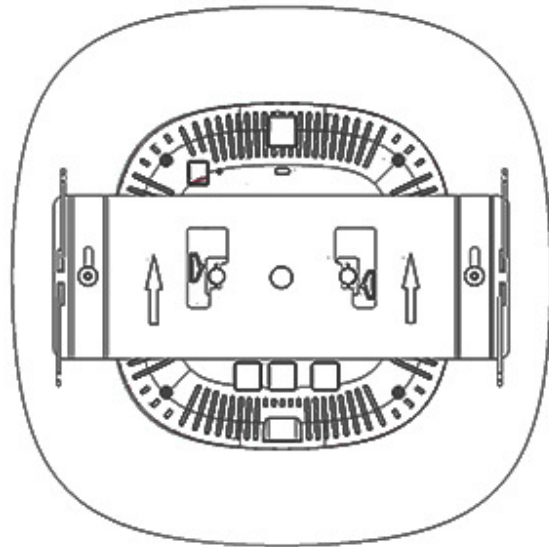

Figure 7 - Lock Access Point in Trim
Step 7 - Lock the access point in place by sliding the mounting bracket in the direction shown in Figure 7. The plunger on the mounting bracket will fall into the hole on the back of the access point locking it into place. Complete the assembly by securely tightening the thumb nuts.